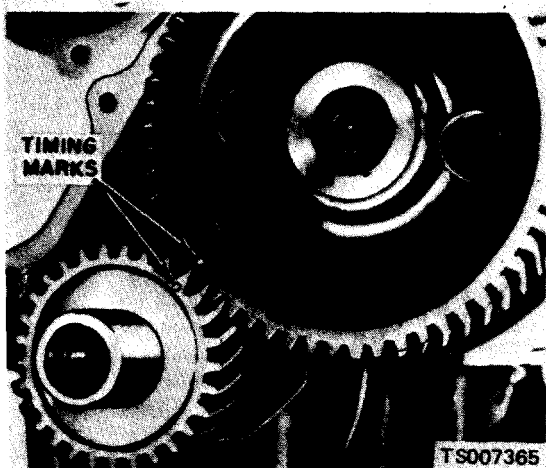
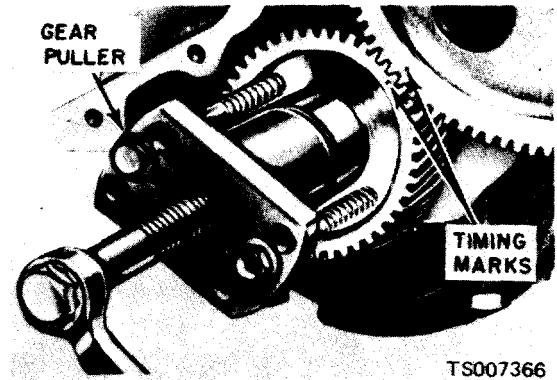

Figure 6-36. Timing Gear Aligning Marks.
Figure 6-37. Removing Crankshaft Gear.
(4) Remove the cylinder front cover and gasket.
(5) Remove the flywheel and engine rear cover plate.
(6) Turn the engine on the work stand so that the bottom of the engine is up. Remove the oil pan, gaskets and seals. Remove the oil pump and inlet tube assembly. Discard the oil pump gasket.
(7) Use an awl to punch two holes in the crankshaft rear oil seal. Punch the holes on opposite sides of the crankshaft and just above the bearing cap to cylinder block split line. Install a sheet metal screw in each hole. Use two large screwdrivers or small pry bars and pry against both screws at the same time to remove the crankshaft rear oil seal. It may be necessary to place small blocks of wood against the cylinder block to provide a fulcrum point for the pry bars. Use caution throughout this procedure to avoid scratching or otherwise damaging the crankshaft oil seal surface.
(8) Make sure all bearing caps (main and connecting rod) are marked so that they can be installed in their original locations. Turn the crankshaft until the connecting rod from which the cap is being removed is at the bottom of the stroke. Remove the connecting rod cap and bearings. Push the connecting rod and piston assembly up in the cylinder. Do not turn the crankshaft completely around as the rod bolts may damage the crankpin journals. Repeat this procedure and remove all connecting rod caps.
(9) Align the timing marks (fig. 6-36). Remove the crankshaft gear (fig. 6-37).